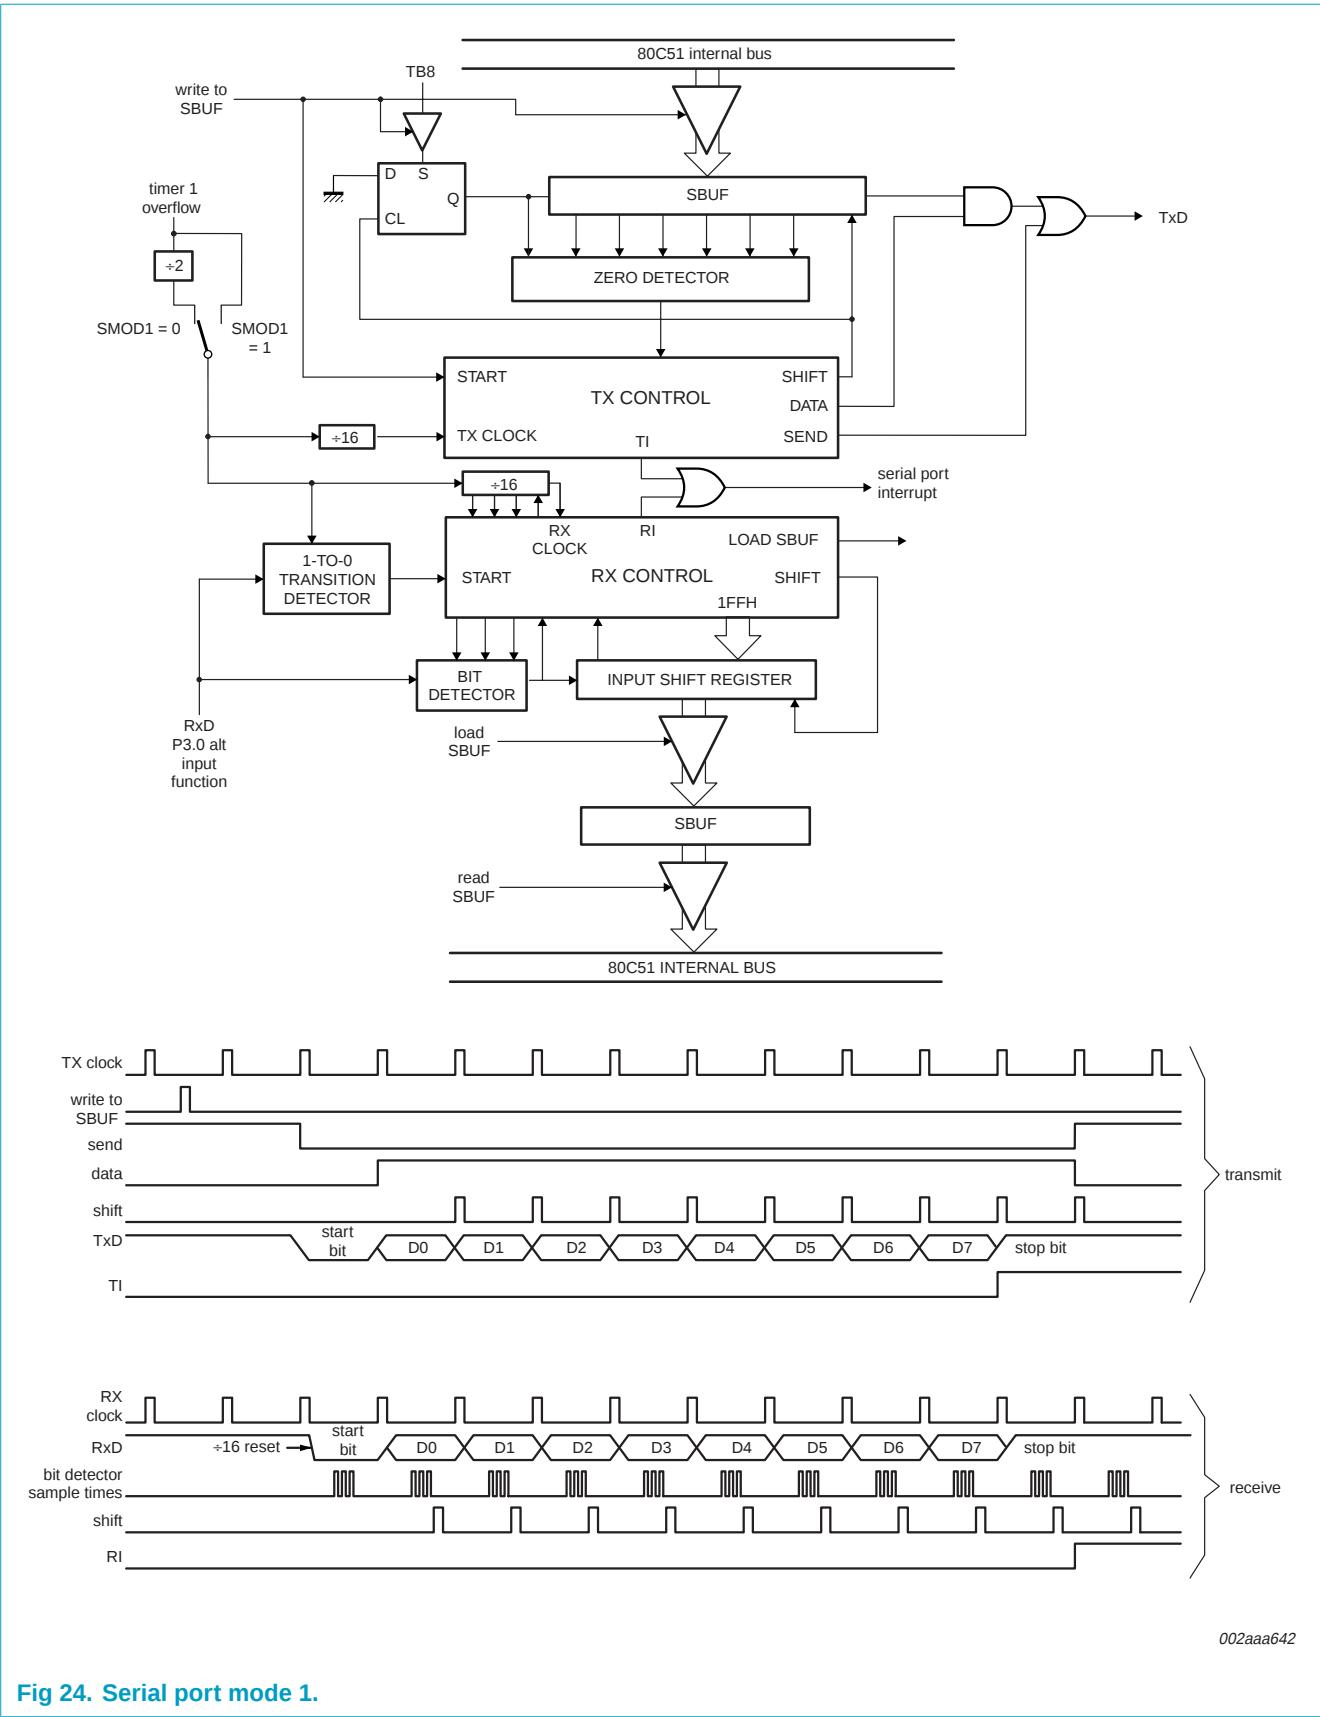

Fig 24. Serial port mode 1.
Ten bits are transmitted (through TxD), or received (through RxD): a start bit (0), 8 data bits (LSB first), and a stop bit (1). On receive, the stop bit goes into RB8 in SCON. In the P87LPC779 the baud rate is determined by the Timer1 overflow rate. **Figure 24** shows a simplified functional diagram of the serial port in Mode 1, and associated timings for transmit receive.